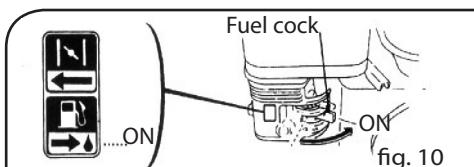

fig. 10
- Push the fuel cock to ON position (Fig. 10).